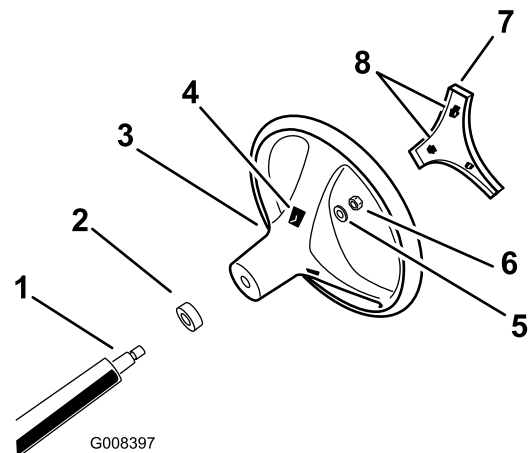

Figure 3
4. Secure the steering wheel to the shaft with the locknut and torque the locknut to 24 to 29 N·m (18 to 22 ft-lb) as shown in Figure 3.
5. Align the tabs of the cover with the slots in the steering wheel, and snap the cover onto the steering-wheel hub (Figure 3).